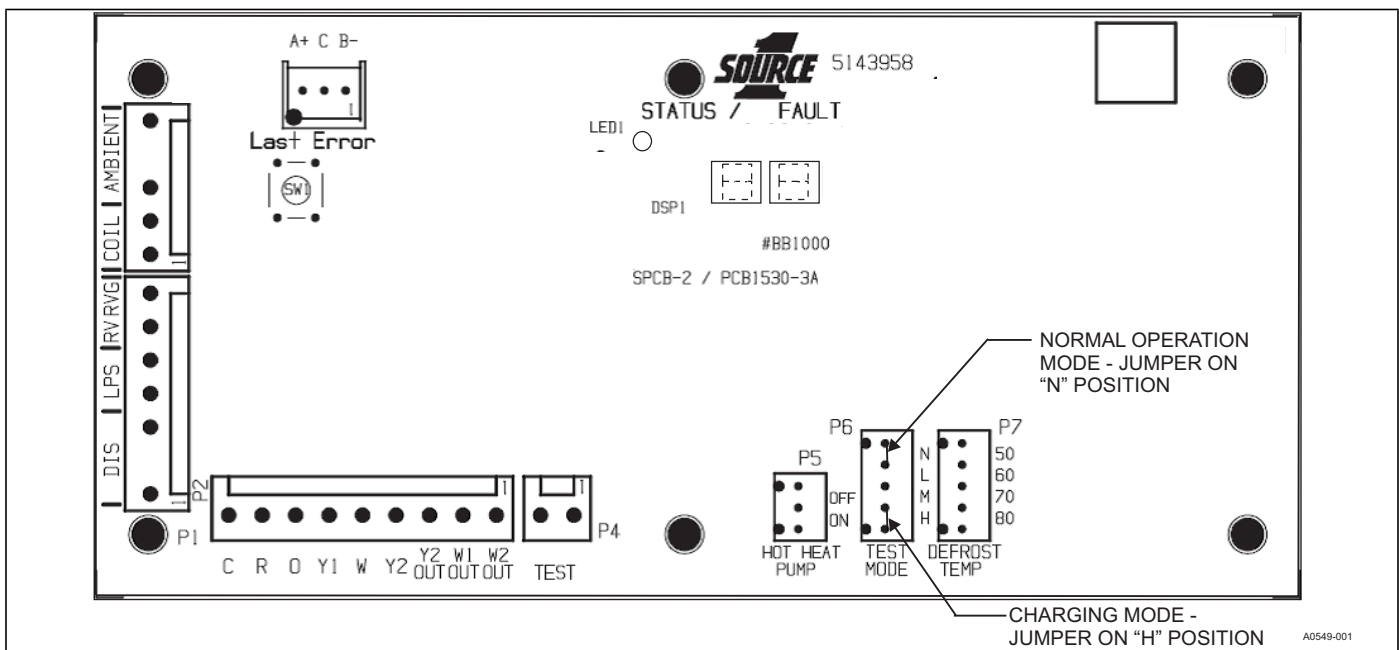

FIGURE 9: Jumper Location for Charging Mode and Normal Operation Mode
6. When charging system, move the P6 TEST MODE jumper from the normal "N" operating position to the high "H" position. After the system is completely charged, move the P6 TEST MODE jumper from the "H" position to the "N" position for normal operation. See Figure 9 for "H" and "N" jumper positions.